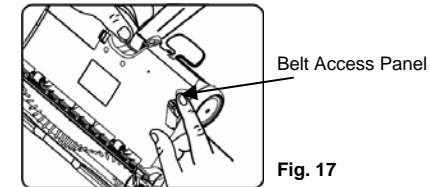

Fig. 17
3. Push in on the locking tab of the belt access panel and lift off to remove. (Fig. 17)